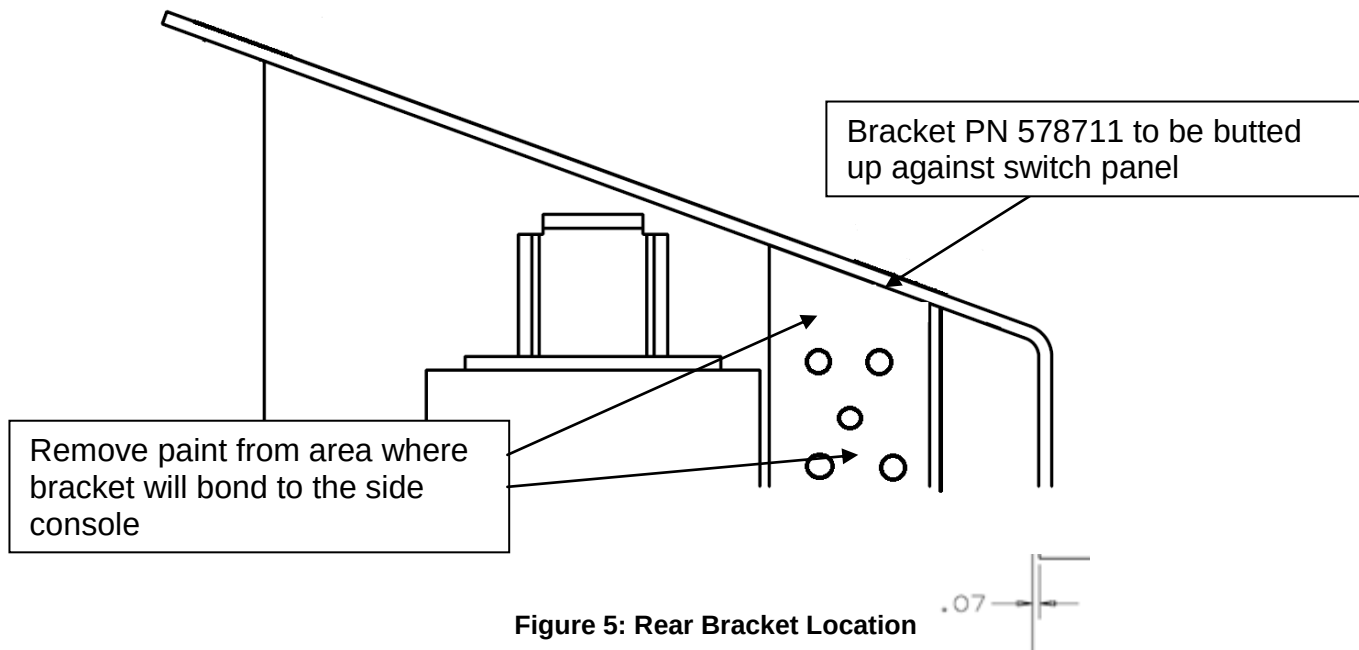

Figure 5: Rear Bracket Location
- b. Locate the rear bracket (NF PN 578711) and hold it in place in the location shown in Figure 5.
- d. Remove the bracket and with a sanding tool or equivalent tool, remove the paint from the inside of the marked out area on these surfaces. See Figure 5.